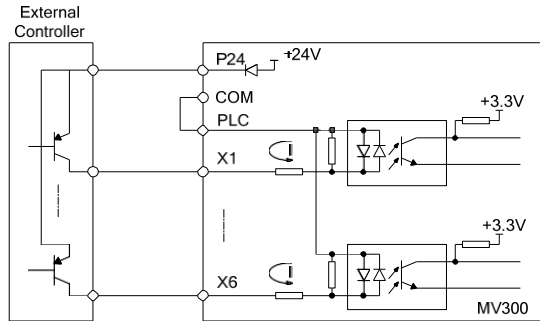

Fig. 3-14 The drain connecting mode when using the internal +24V power supply of the drive
2) When the internal +24V power supply is used and the external controller is the PNP common emitter output (**note:** be sure to remove the short circuit plate between the user terminal PLC and P24 first, then connect it between PLC and COM terminals firmly), the wiring mode is as shown in Fig. 3-14.